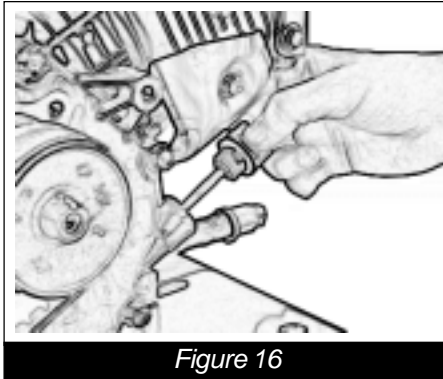

Figure 16
- Check Engine Oil before each operation. Open the filler cap and look at the dip stick. (*Figure 16*) Oil should be clearly visible both on the stick and in the cavity and should look fairly clean. Running the machine on dirty oil or when the oil is low will result in damage to the equipment.